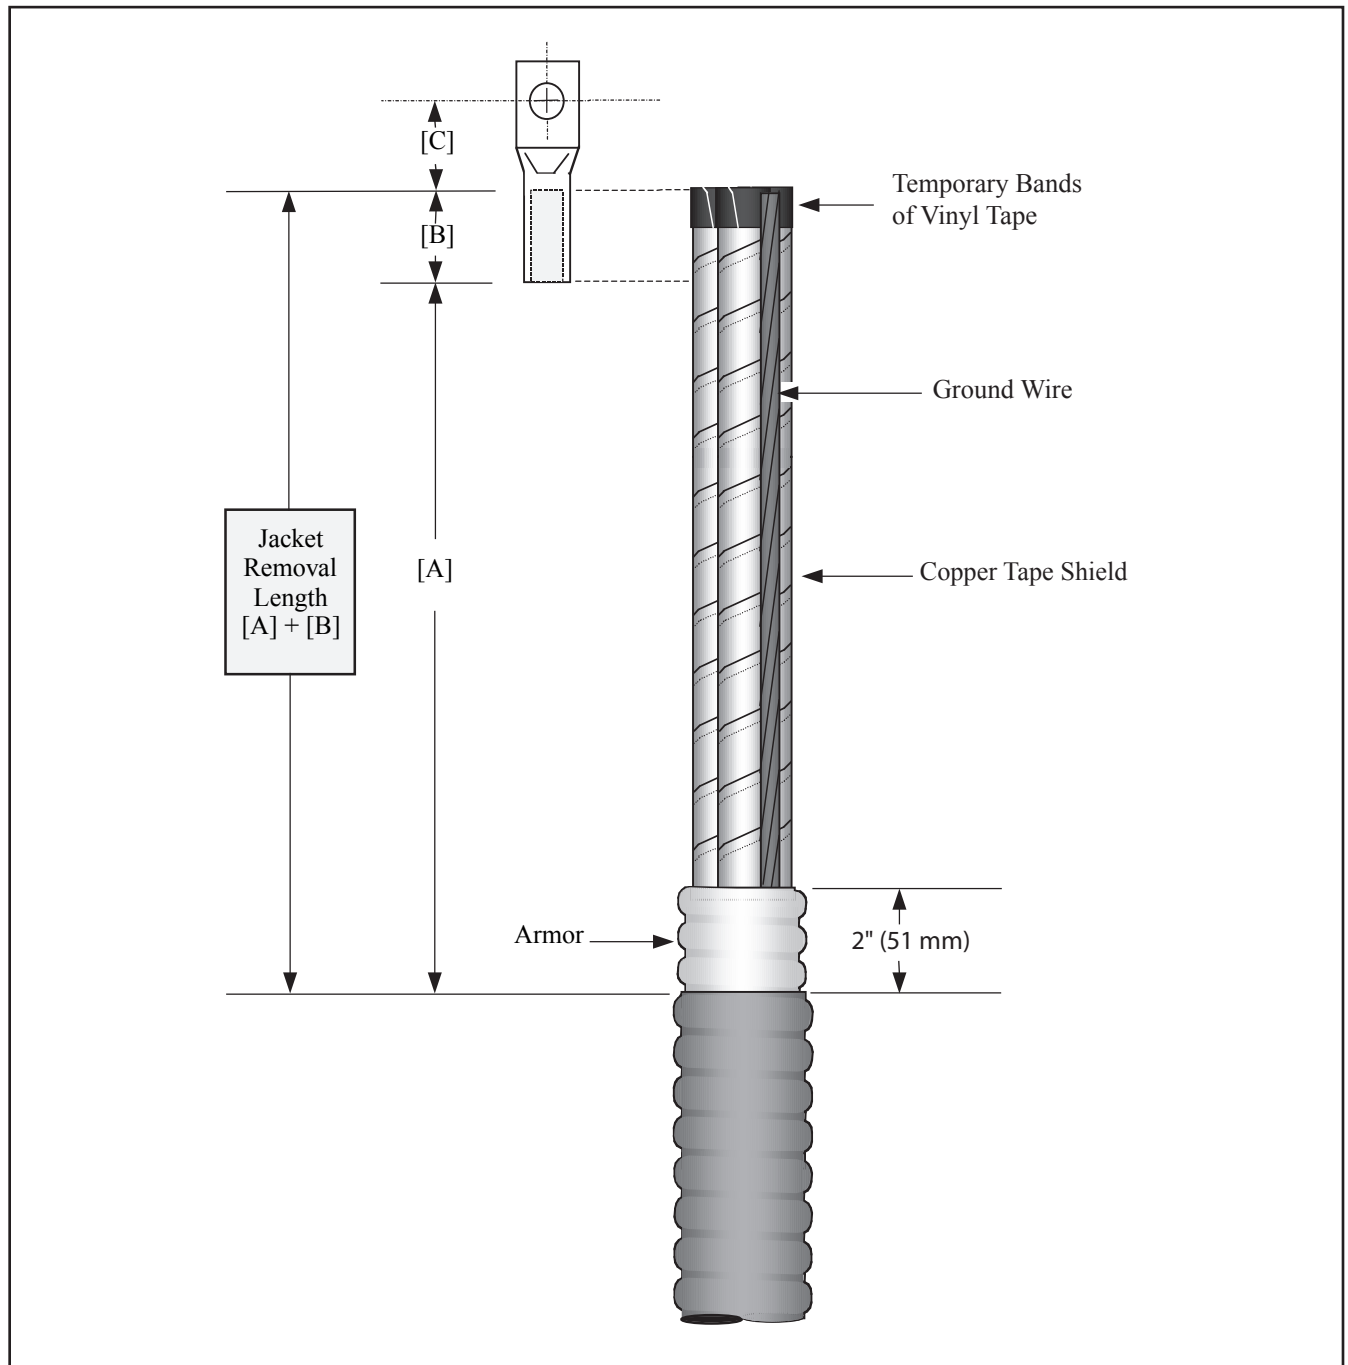

Figure 1
- 1.1 Determine cable jacket removal length required for correct phase spacing and bolted terminal lug connections ($[A] + [B]$ Figure 1; based on the longest phase to be connected). Allow for dimension $[C]$ as needed.
- 1.2 Remove cable jacket, armor, bedding (inner sheath) and core fillers according to Figure 1 dimensions. Secure each copper tape shield end with a temporary band of vinyl tape (Figure 1).